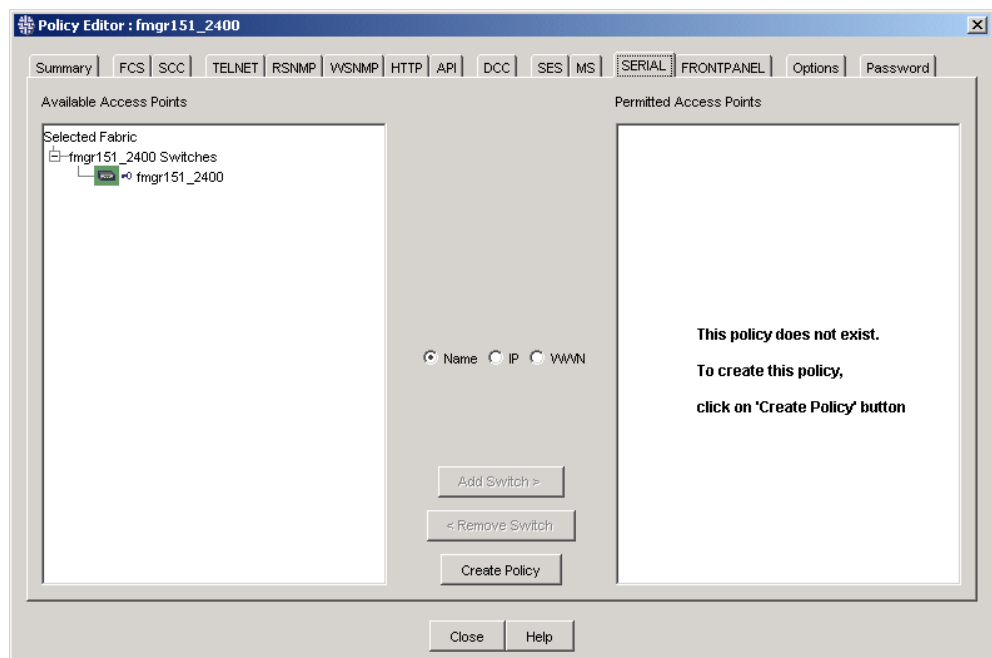

Figure 37: Configuring the Serial Policy
2. Click the **Policy** tab, where *Policy* is **Serial** or **Front Panel**. Figure 37 shows the **Serial** tab.